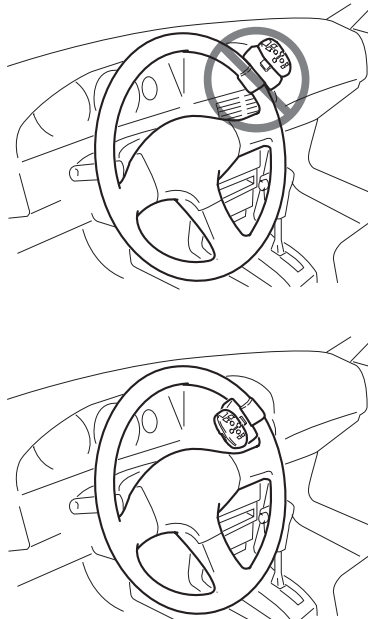

Fig. 6
- Do not attach this unit to the outer circumference of the steering wheel. Otherwise, it disturbs driving stability, causing a traffic accident. Always attach this unit to the inner circumference of the steering wheel as shown. (Fig. 6)